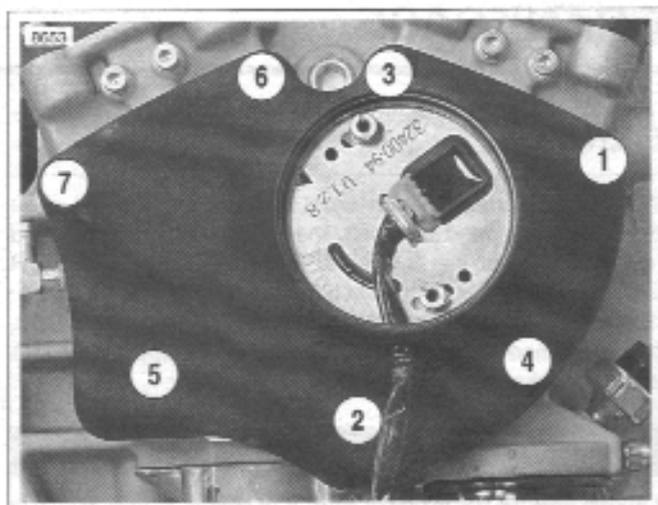

Figure 3-131. Gearcase Cover Mounting Screw Torque Sequence
5. See Figure 3-131. Install gearcase cover over all gears and onto right crankcase half. Secure cover to crankcase half with 7 socket head screws. Tighten screws evenly to 80-110 **In-lbs** (9-12 Nm). Use torque sequence as shown in Figure 3-131.